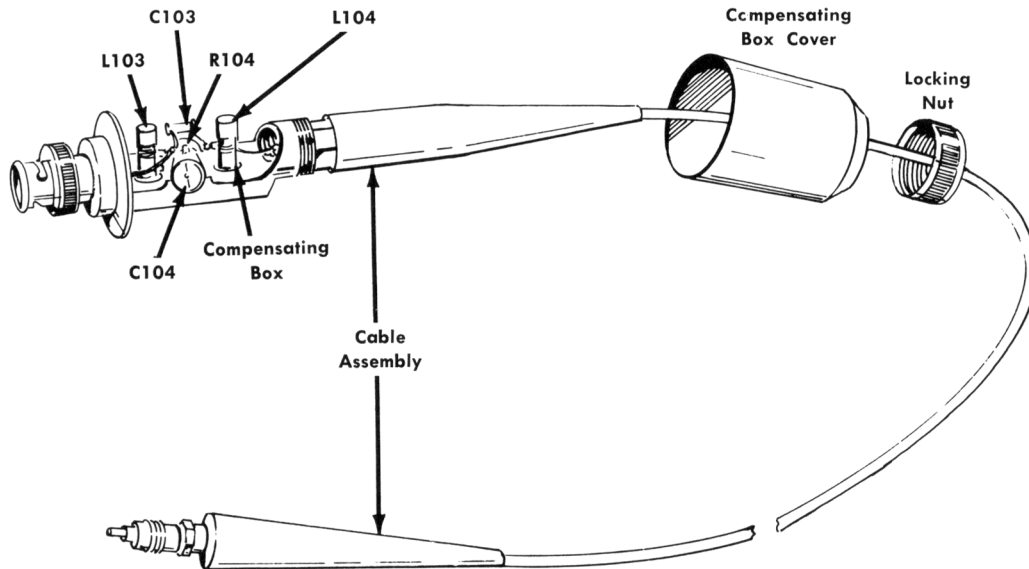

Fig. 4-2. P6008 Probe Compensating Box Assembly.
1. Remove the Compensating Box Cover by unscrewing the Locking Nut that holds it in place (see Fig. 4-2).
3. Set C104 (see probe schematic and Fig. 4-2) to maximum capacitance. Maximum capacitance of C104 is determined when the display shows a minimum spike, or some roll-off.
5. Use items 3, 4, 5, 6, and 7 of Equipment Required, and connect the probe to the 50-ohm fast-rise square-wave generator. Use the 20-nsec cable with the generator as the chargineline to obtain a 40-nsec pulse.